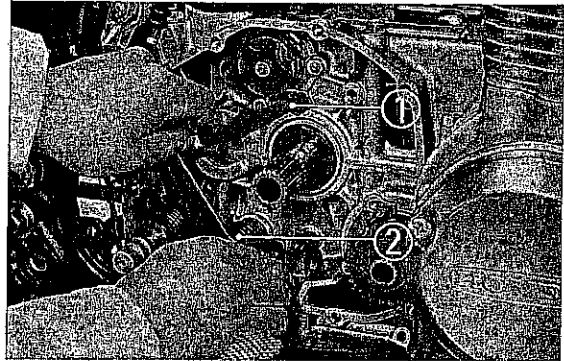

Fig. 1-2 ① Gear shift arm
② Neutral stop bolt
4. Lower the gear shift arm as shown in Fig. 1-2 and remove the gear shift spindle.